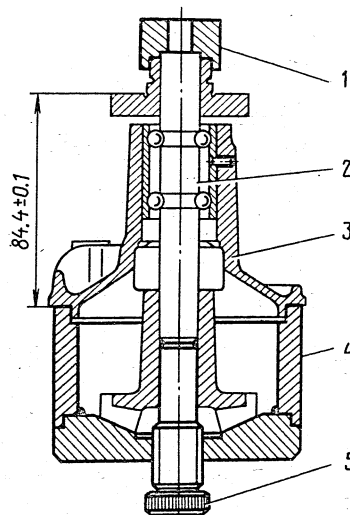

Fig.2-65. Installing the Impeller on Pump Shaft with Tool A.60430:
- using installation tool A.60430 (Fig. 2-65), force the pulley hub on the shaft ensuring a dimension  $84.4 \pm 0.1$  mm;